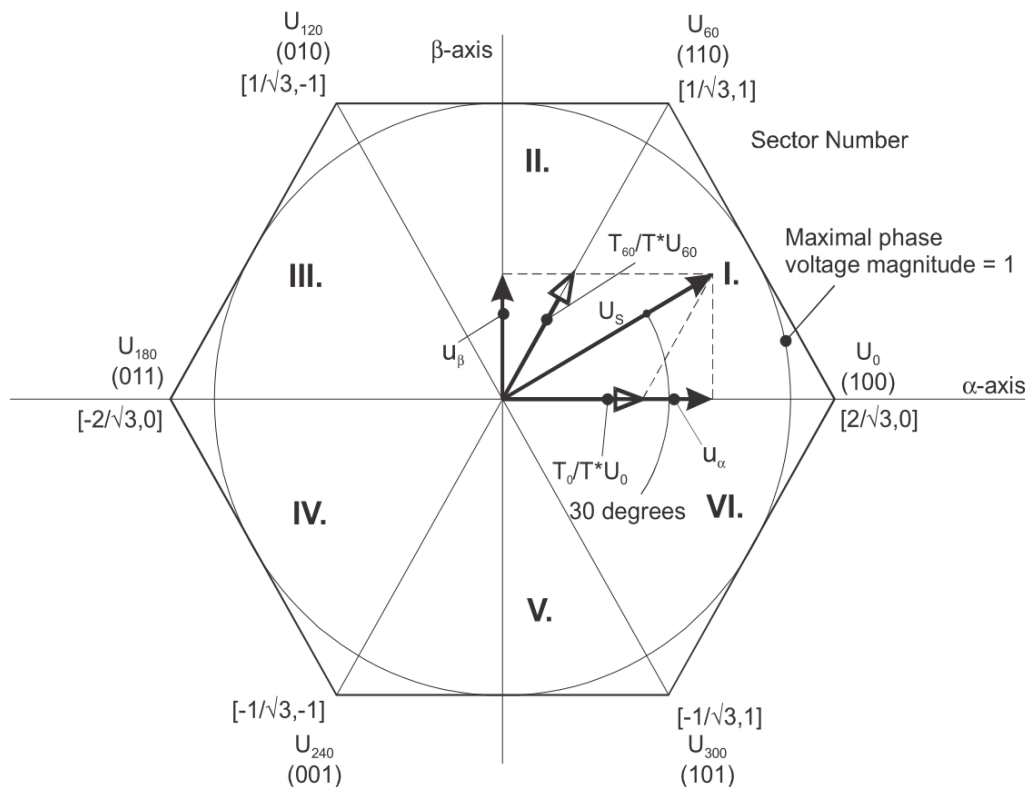
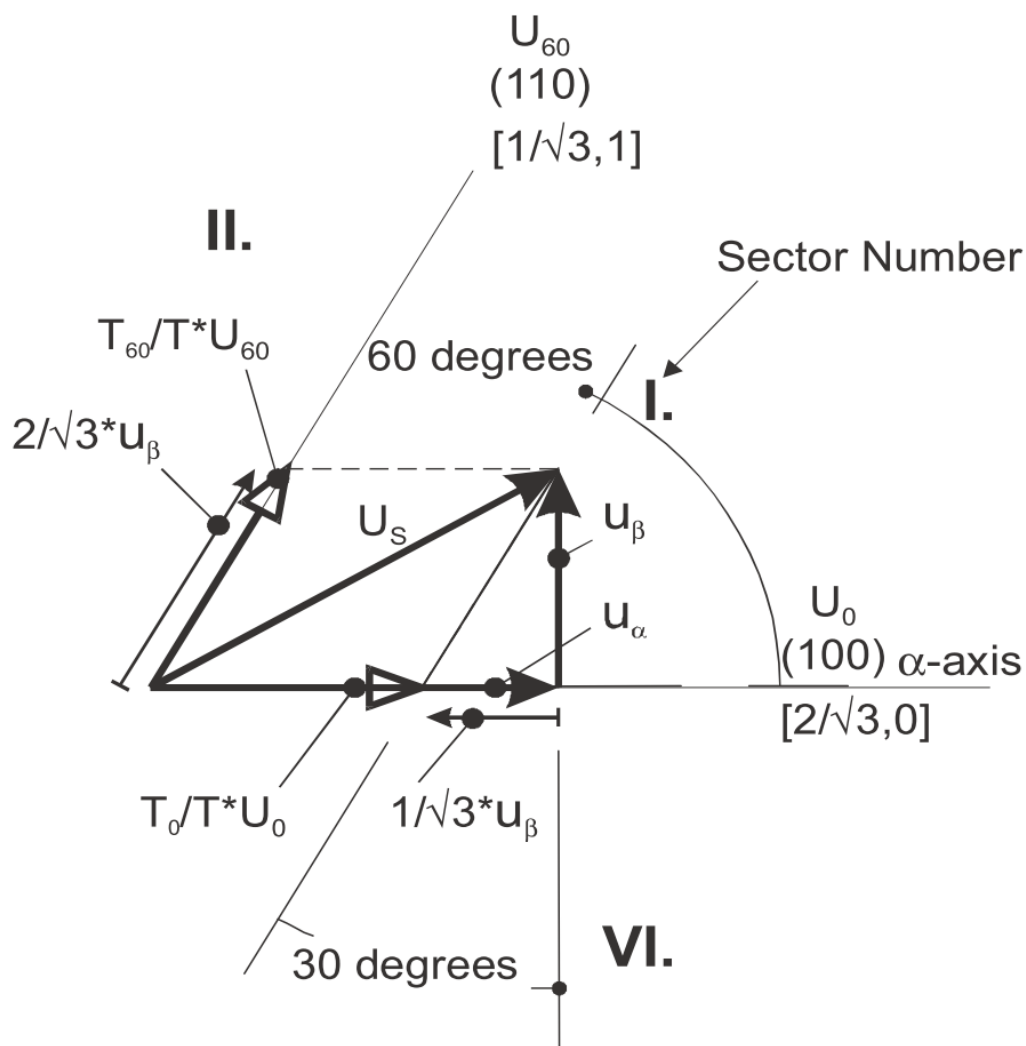
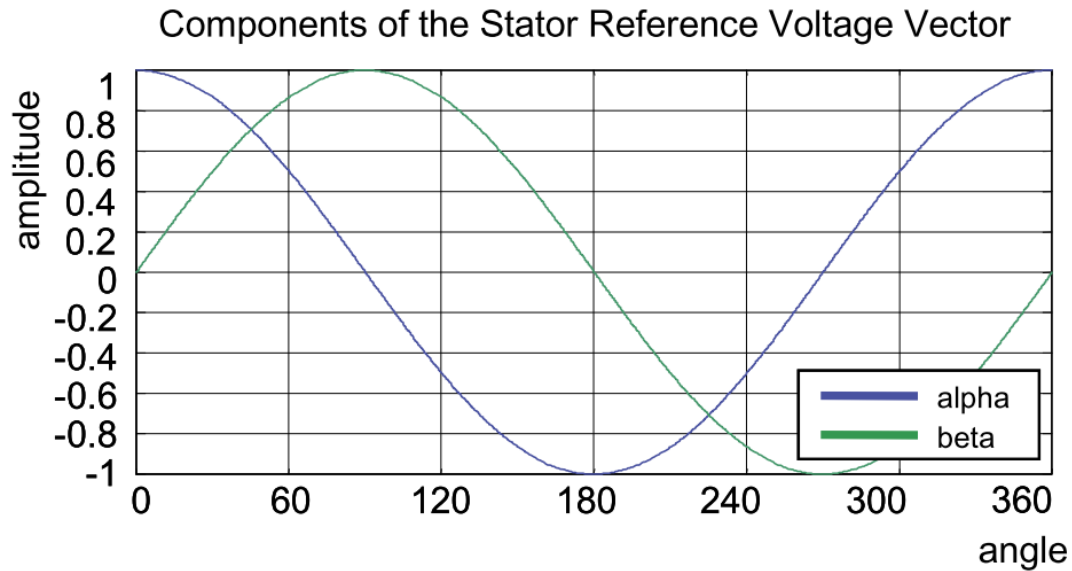
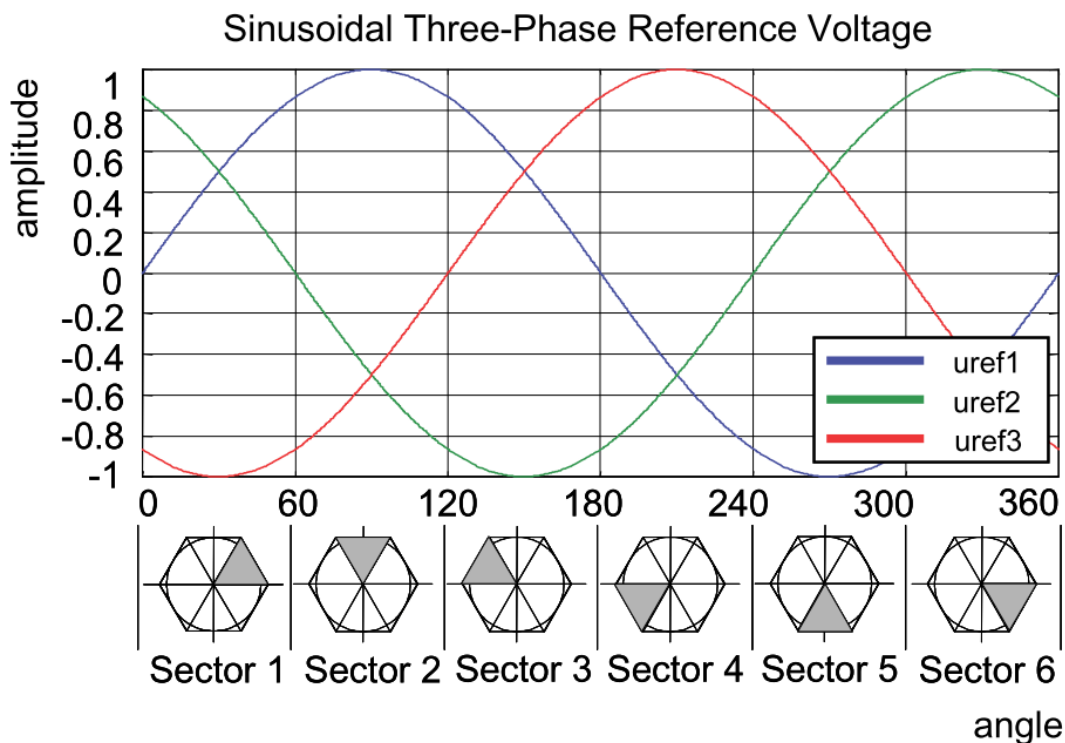

Figure 2-7. Projection of reference voltage vector in the respective sector
Figure 2-8. Detail of the voltage vector projection in the respective sector
Figure 2-11. Direct- u_{α} and quadrature- u_{β} components of the stator reference voltage
Figure 2-12. Reference voltages U_{ref1} , U_{ref2} , and U_{ref3}
Referring to this principle, the objective of the standard space vector modulation is an approximation of the reference stator voltage vector U_s , with an appropriate combination of the switching patterns, composed of basic space vectors. The graphical explanation of this objective is shown in Figure 2-7 and Figure 2-8.
The modified Inverse Clark transformation projects the quadrature- u_{β} component into u_{ref1} , as shown in Figure 2-11 and Figure 2-12, whereas voltages generated by the conventional Inverse Clark transformation project the direct- u_{α} component into u_{ref1} .
Figure 2-11 depicts the direct- u_{α} and quadrature- u_{β} components of the stator reference voltage vector U_S , which were calculated using equations $u_{\alpha} = \cos \vartheta$ and $u_{\beta} = \sin \vartheta$, respectively.
In the worst case, at least three simple comparisons are required to precisely identify the sector of the stator reference voltage vector. For example, if the stator reference voltage vector is located as shown in Figure 2-7, the stator-reference voltage vector is phase-advanced by 30° from the direct α -axis, which results in the positive quantities of u_{ref1} and u_{ref2} , and the negative quantity of u_{ref3} ; see Figure 2-12. If these quantities are used as the inputs for the sector identification tree, the product of those comparisons will be sector I. The same approach identifies sector II, if the stator-reference voltage vector is